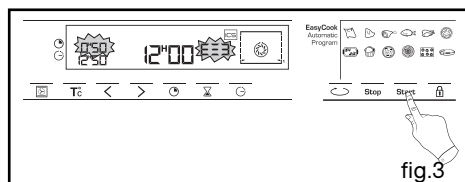

fig.3
- Confirm by pressing the **Start** button to start cooking (fig.3).